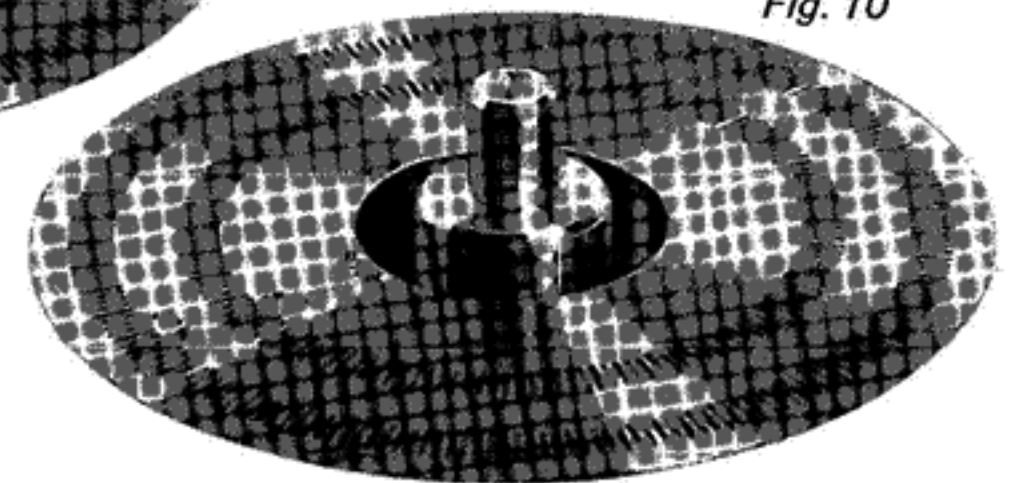

Fig. 10
- Fit single record spindle (Fig. 10).